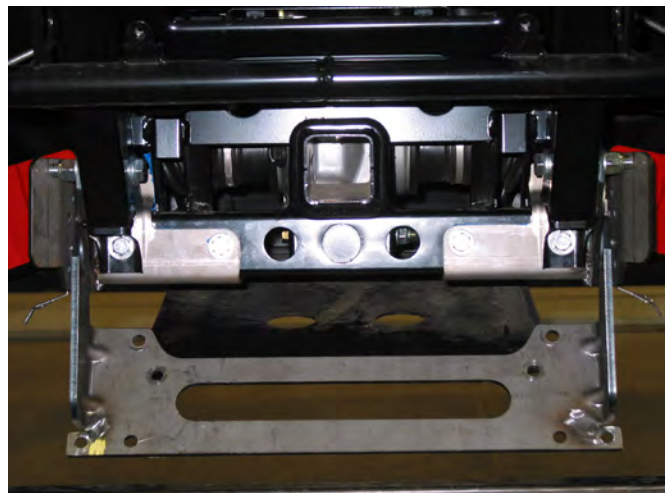

Figure 6
- Insert the plow flange (A3) into the plow mount and install the pins. With the flange installed, adjust the plow mounts. The plow mounts should be straight with the ears of the flange. When the plow mount fasteners are tightened, the flange should be able to slide in the plow mounts easily. See figure 6.
- Turn off the vehicle and set the parking brake. Lift the plow mount flange end of the push tube assembly up to the plow mount on the vehicle. Insert the plow mount flange into the plow mount receiver. See Figure 6.